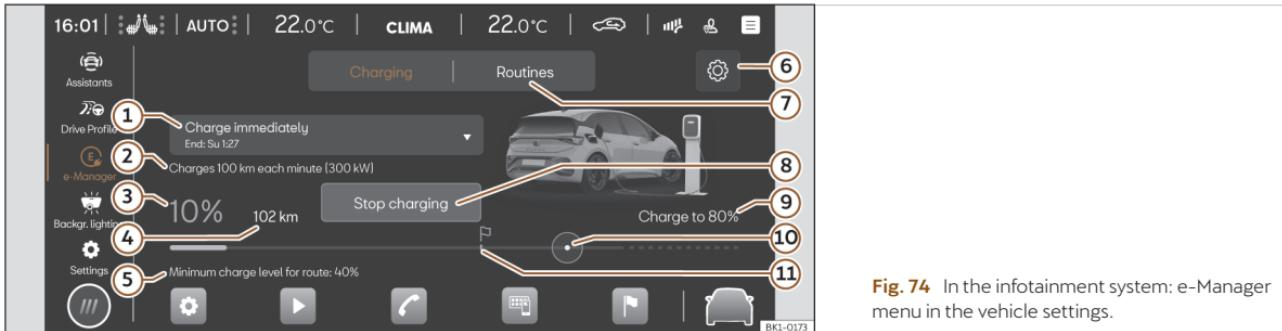

Fig. 74 In the infotainment system: e-Manager menu in the vehicle settings.
2. Press the  **>>> Fig. 74 ⑥** button.